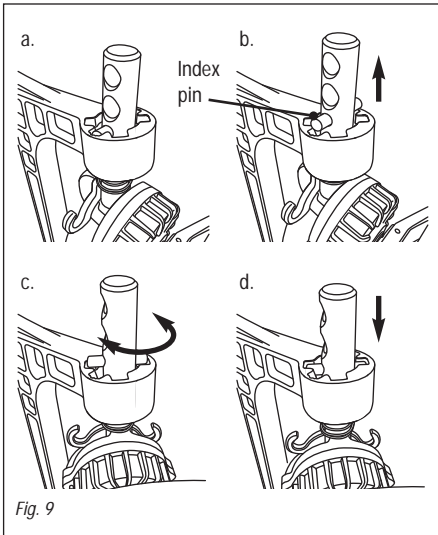

Fig. 9
- 4.2.6 Align the Derope® descent device in the required direction by modifying the position of the anchor pin in the indexing device (*Figure 9*).